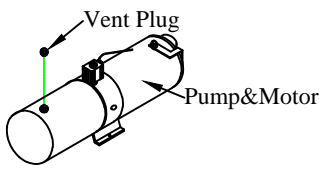

Figure 15: Vent plug.
2. **Unscrew** the solid plastic plug from the pump reservoir and **Install** the vent plug provided (Figure 15).